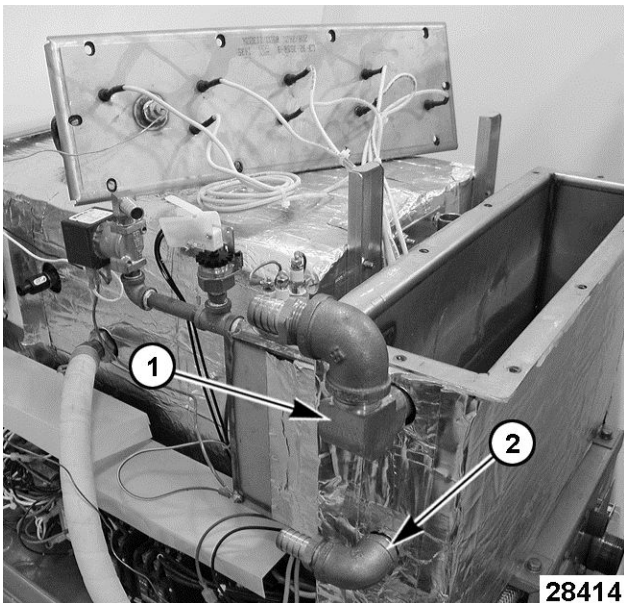

Fig. 88
12. Remove steam outlet elbow fittings [1] Fig. 88 from steam generator tank.
13. Remove elbow fitting [2] Fig. 88 for the delime hose from steam generator tank and retain for reuse.